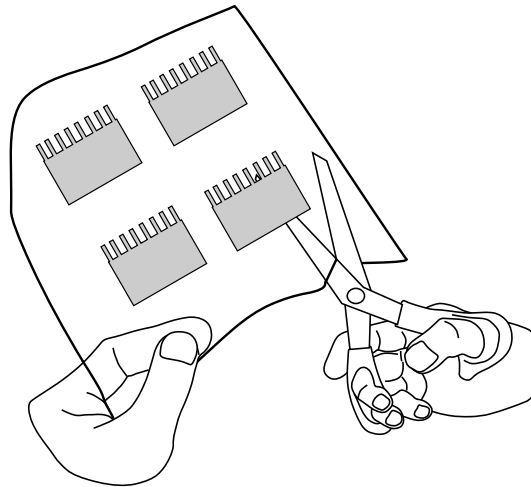

Fig. 9. Trimming a dried gel.
13. Separate the cellophane from the frames and cut away any unnecessary cellophane from around the gel. You can trim the cellophane right up to the edge of the dried gel (Figure 9). The gel will not peel or separate from the cellophane.